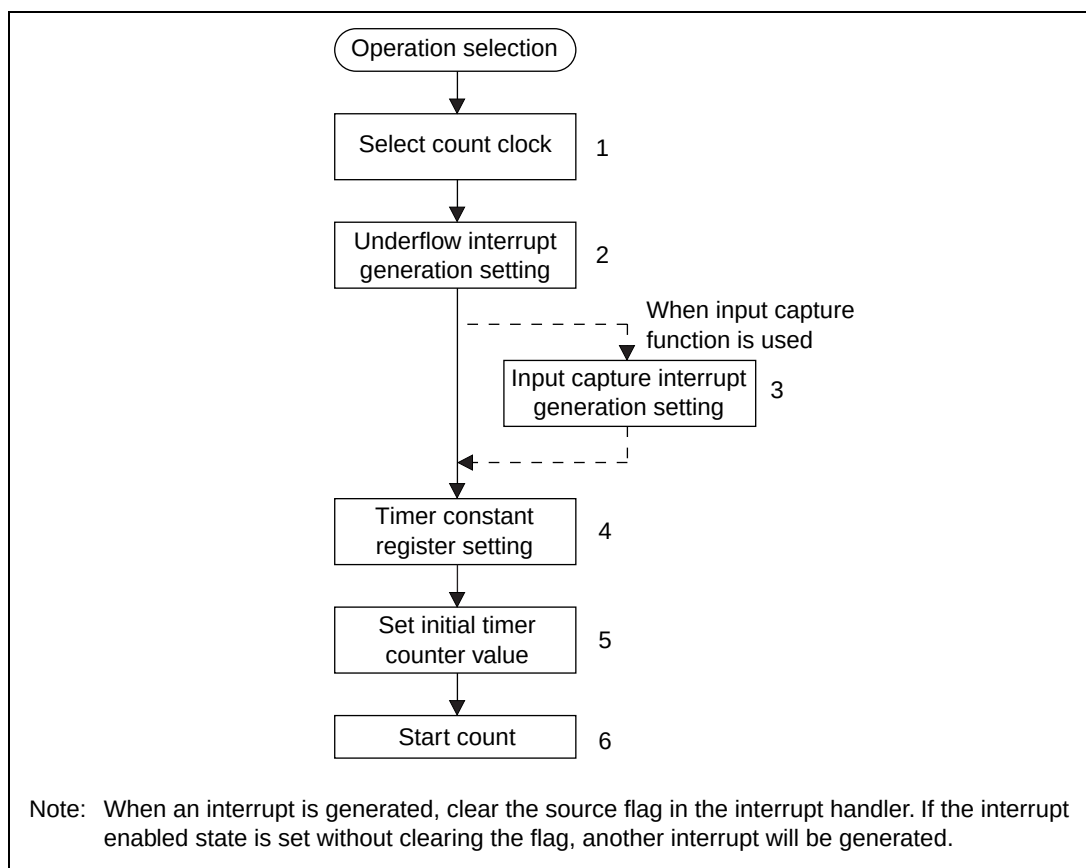

**Figure 12.2 Example of Count Operation Setting Procedure**
**Example of Count Operation Setting Procedure:** Figure 12.2 shows an example of the count operation setting procedure.